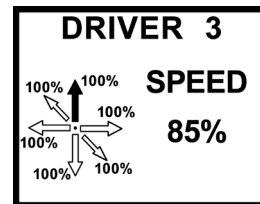

Figure 4
6. Using the CHANGE button, scroll until the correct value appears. 100% = no limitation, 50% = maximum limitation. **(Figure 4)**